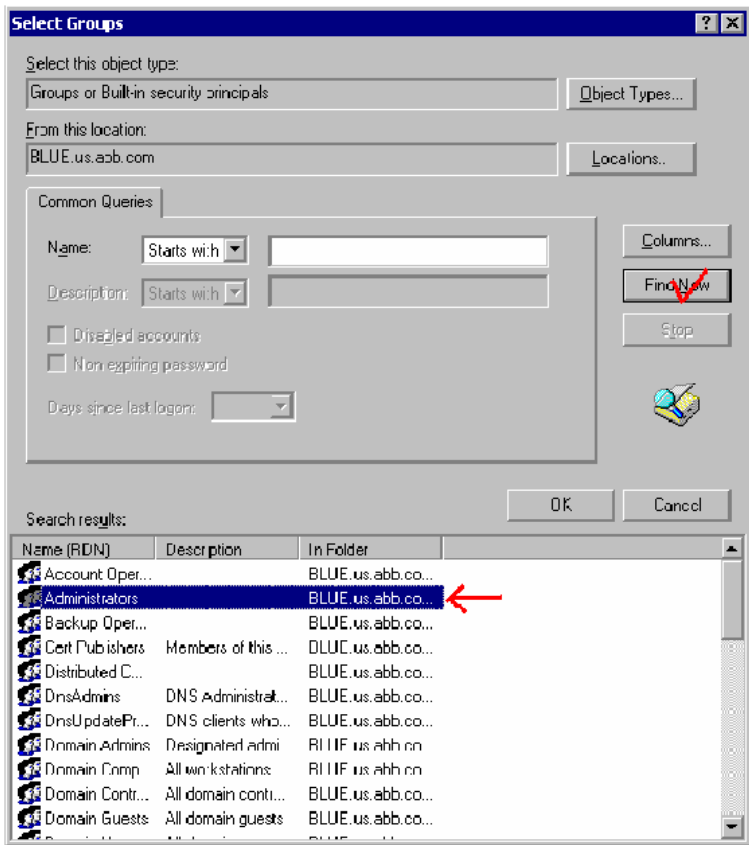

Figure 11. Adding the DCTService User to Administrators Group
- d. Click **Advanced** to launch the dialog box shown in Figure 11.